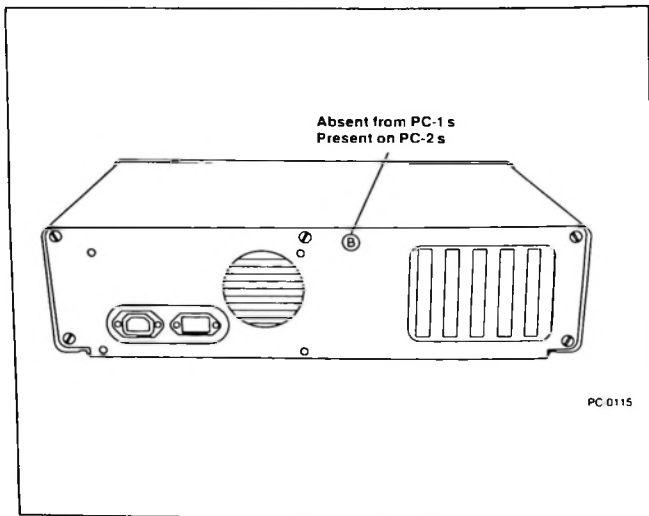

**Figure 7-1** *Distinguishing between IBM PC and IBM XT computers*
- 1 Identify your computer. IBM XT computers have a nameplate that reads "IBM Personal Computer XT" in the upper left corner of the front of the system unit. IBM PC computers have a similar nameplate that reads "IBM Personal Computer." Figure 7-1 shows the difference.